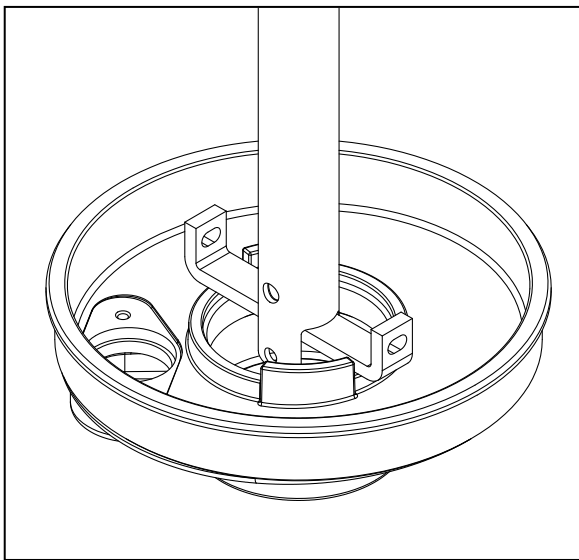

Figure 1
Step 3: (See Figure 1)
Remove bucket using 61SA-TOOL as shown in tool instruction sheet 202394 and Figure 1.